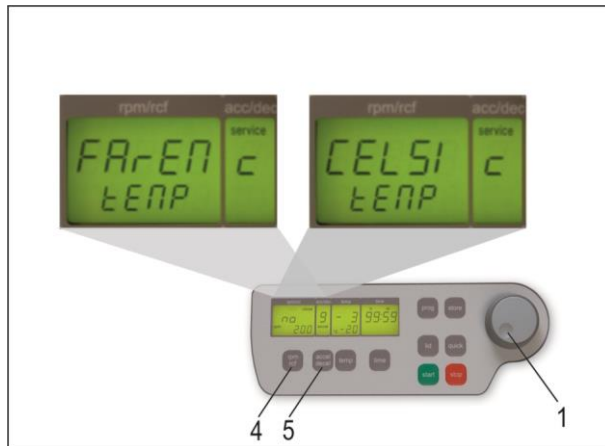

Figure 5
Proceed as illustrated, under point 1.8.1, to enter this program mode, press the key "accel/decel" (5). In the display, "accel/decel" (A-2) appears the word, "service". Select the letter, "C", with the adjustable knob (1). As a result, appearing in the display, "rpm/rcf" (A-1) are the words, "CELSI/temp". By pressing the key, "rpm/rcf" (4), the word "CELSI" flashes, this allows you to change the display into Fahrenheit "FAREN", with the adjustable knob (1), (see Figure 5).